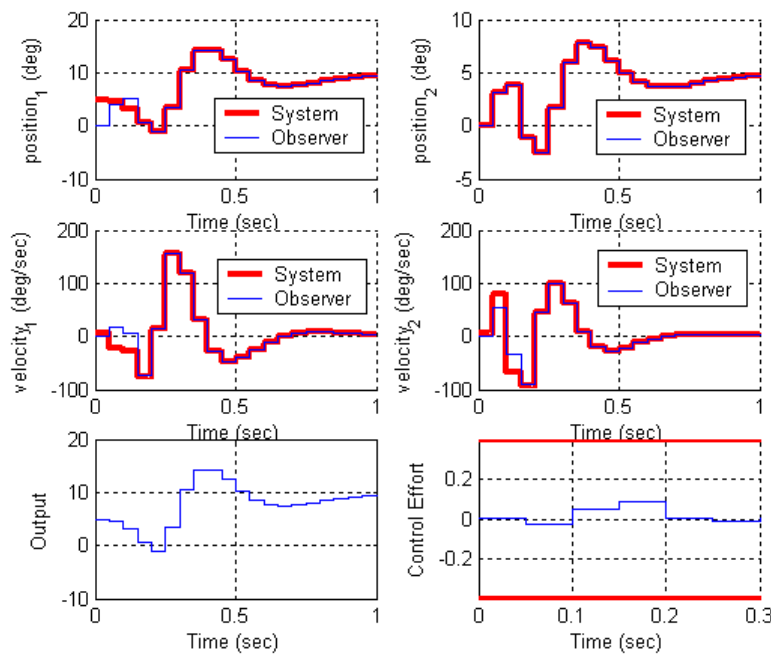

Figure 7. Results for problem **3b**.
b) Assume the only known state is the position of the second disk, and the output is the position of the first disk. Use a sampling interval of 0.05 seconds, assume all the state feedback poles are at 0.5, and the observer poles are at [0.01 0.015 0.02 0.025]. Also assume the system initially starts with disk 2 at zero degrees, disk 1 at 5 degrees, and both disks with an initial velocity of 5 degrees/sec (be careful of units here! The model works in radians.). The initial estimate of the delayed input signal is zero. The initial estimates of the observer are zero. For a 10 degree step input you should get the graph shown in Figure 7. Turn in your plot.